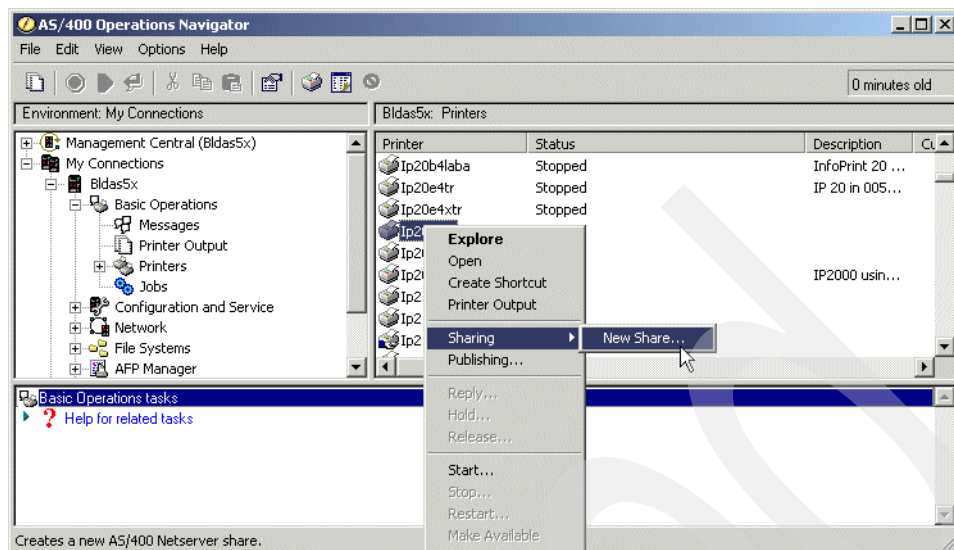

Figure 116. List of printers
4. Select **Printers** to see the list of the available printers on the iSeries (Figure 116).